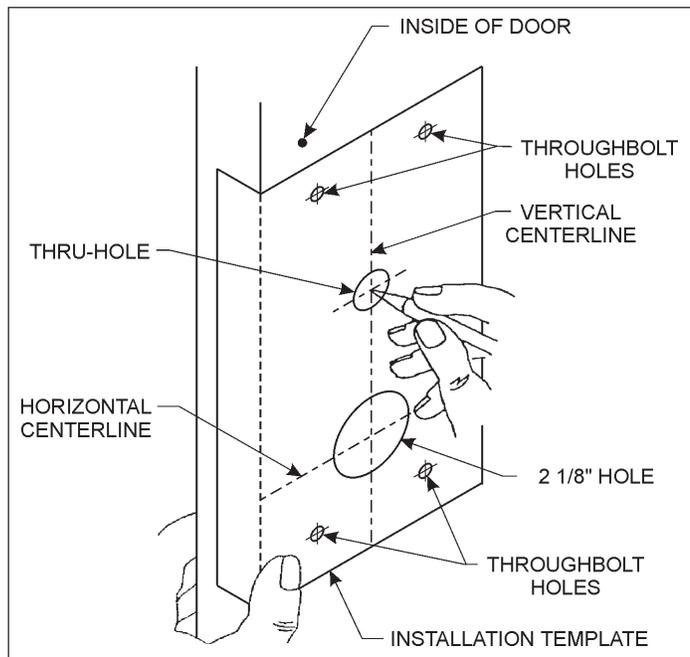

Figure 4
6. Locate and mark the center for the four 11/32" (8.7mm) diameter throughbolt clearance holes. Refer to Figure 4.
7. Locate and mark the center for the 1" (25.4mm) diameter thru-hole for the system cable. Refer to Figure 4.